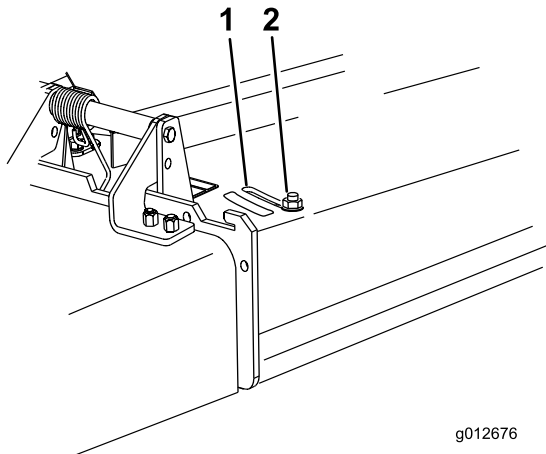

Figure 29
3. To adjust the baffle, loosen the nut (Figure 29).